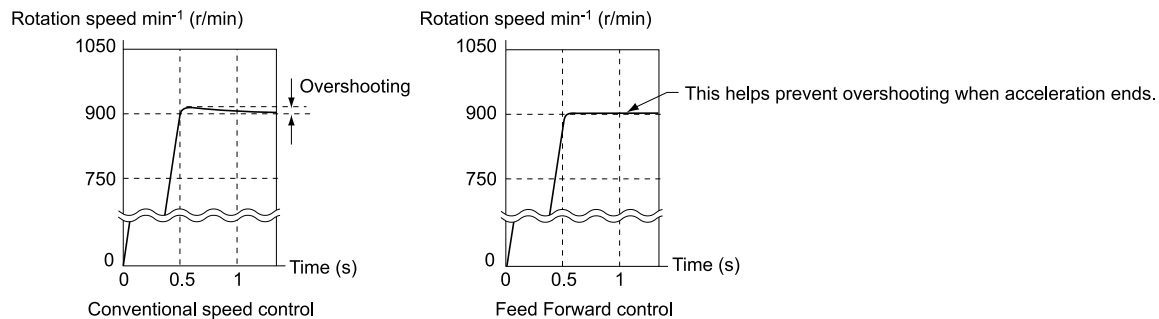
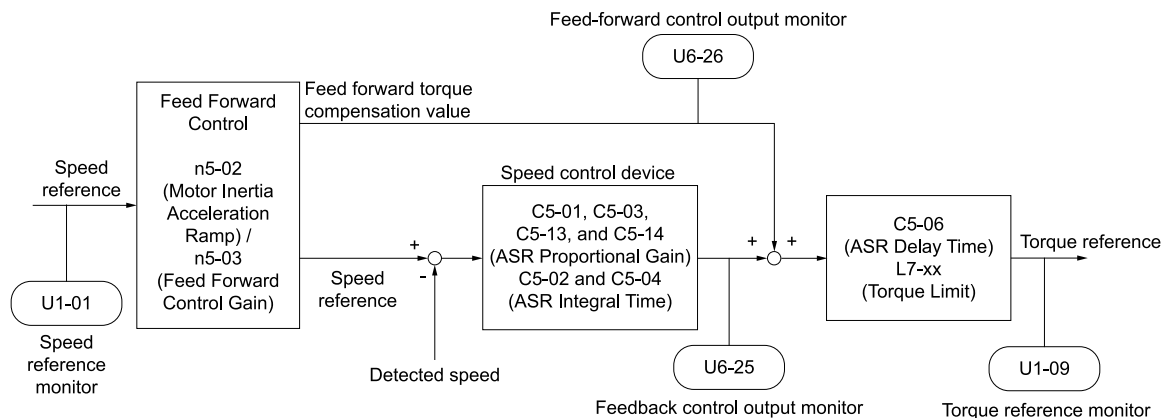

Figure 12.41 Suppress Overshooting with Feed Forward Control
Figure 12.42 Configure Feed Forward Control
Use feed forward control for applications where a high speed control proportional gain setting in *C5-01*, *C5-03*, and *C5-13* [ASR Proportional Gain] would lead to problems with overshoot, undershoot, or oscillation. When you use this function in CLV control, it also helps prevent overshoot. Refer to Figure 12.41. Refer to Figure 12.42 for more information about parameters related to feed forward control.
- Refer to Figure 12.42 and set the parameters related to feed forward control individually.